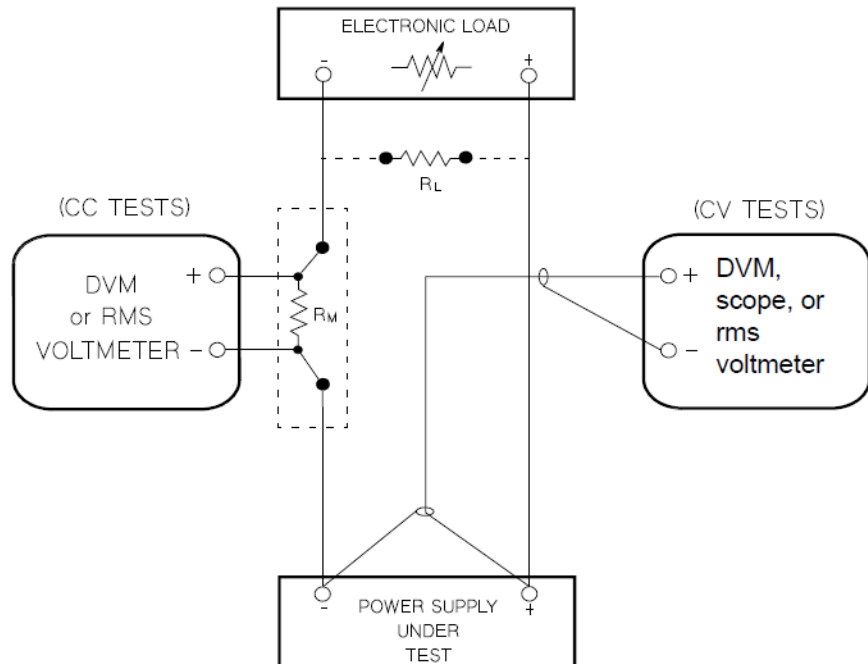
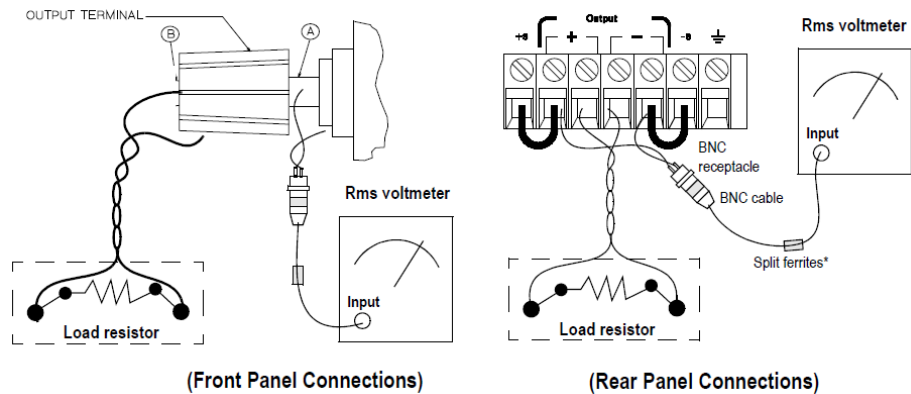

Figure 8-1 Performance verification test setup
Figure 8-3 Front/rear panel terminal connections for the Vrms measurement
Most tests are performed at the front terminals as shown in Figure 8-1. Measure the DC voltage directly at the (+) and (-) terminals on the front panel.
To eliminate the output current measurement error caused by the voltage drops in the leads and connections, connect the current-monitoring resistor between the (-) output terminal and the load as a four-terminal device. Connect the current-monitoring leads inside the load-lead connections directly at the monitoring points on the resistor element (refer to R_M in Figure 8-1).
- 1 Turn off the power supply and connect a digital voltmeter between the (+) and (-) terminals of the output to be tested as shown in Figure 8-1.
- 1** Turn off the power supply and connect a digital voltmeter between the (+) and (-) terminals of the output as shown in Figure 8-1.
For better measurement results, it is recommended to make the connection between the BNC receptacle and the output terminals as short as possible, and to use the recommended split ferrites with the BNC-to-BNC cable as shown in Figure 8-3.
- 1 Turn off the power supply and connect the output to be tested as shown in Figure 8-1 to an oscilloscope (AC-coupled) between the (+) and (-) terminals. Set the oscilloscope to the AC mode and bandwidth limit of 20 MHz. Connect a resistive load (13.5Ω)^[1] to the terminal at (B) as shown in Figure 8-3.
- 5 Disconnect the oscilloscope and connect the AC rms voltmeter in its place according to the V_{rms} measurement techniques above and as shown in Figure 8-3. The rms voltage reading does not exceed the rms limit of 0.5 mV^[3] or 1 mV^[4].